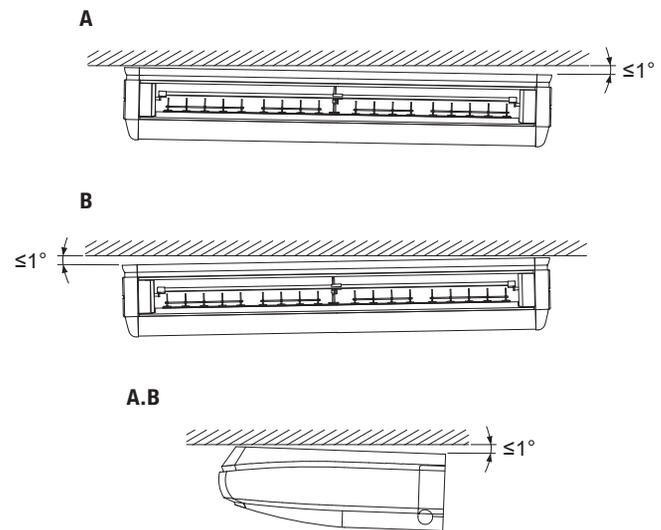

Fig. 12
(5) When hanging the indoor unit, make sure to use the level to have better drainage and install it horizontally. Also, if it is possible at the installation site, install so that the drain piping side is slightly lower. (Refer to Fig. 12)